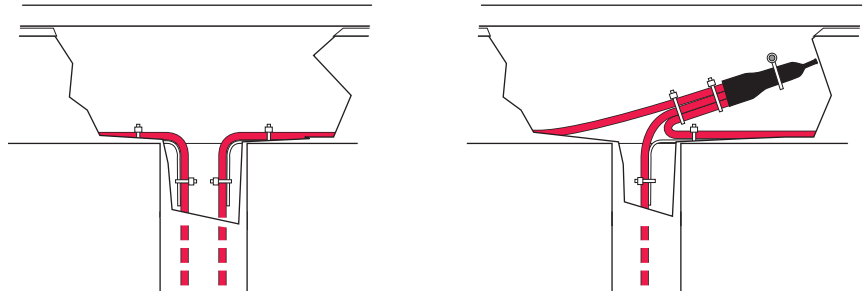
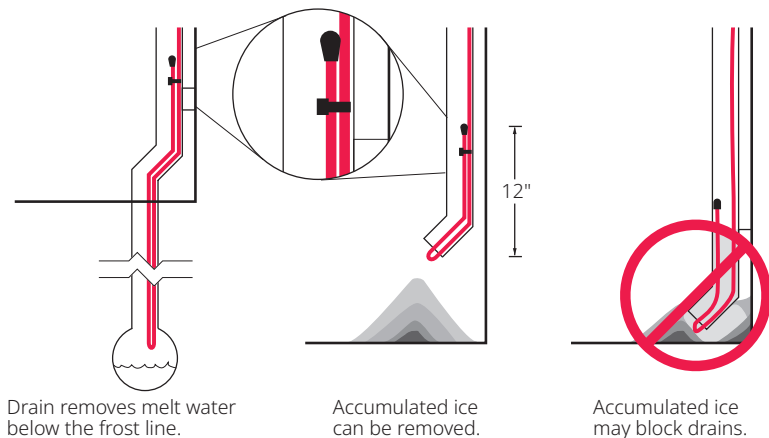

Figure 10 Heating cable at top of downspout
Figure 11 Heating cable at bottom of downspout
- External downspouts and scuppers must be treated carefully. A path must be provided for the valley/perimeter heating cable to the point of discharge (see Figure 11 on page 14).
Ice may form in downspouts and prevent melt water from escaping from the roof. To maintain a continuous path for melt water to run off, run the heating cable inside the downspout to the end as shown in Figure 10 and Figure 11 below. Follow the appropriate attachment recommendations in Step 2. Additional heating cable may be needed for the roof surface, gutters, and valleys.